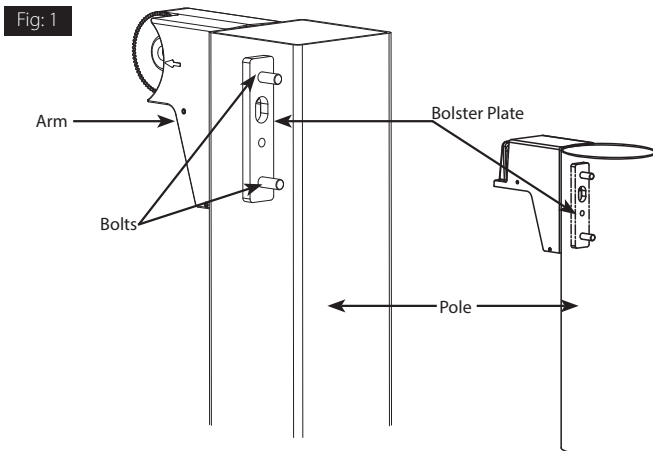

Fig: 2
2. Open the **Arm Cover** (*Fig. 2*) and feed the fixture and supply wires into the **Arm Wiring Compartment** to make the wire connections as per wiring diagram (*Fig. 25*). Make appropriate wire connections as per NEC.
3. To adjust fixture angle, loosen the **Locking Bolt** as shown in Fig. 2. Swivel fixture to desired angle and tighten **Locking Bolt**.